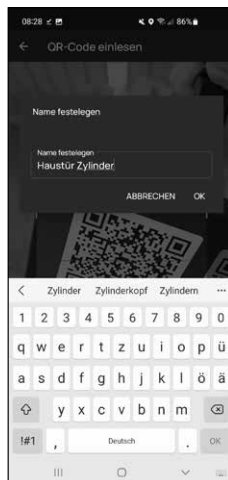

Fig. 6
- 7 In the following window, you will be prompted to assign a name for the cylinder. Where several cylinders and secuENTRY components are used, it is recommended to name the cylinder in such a way that you can directly identify what it is and where the cylinder is located or attached. In the example in these instructions, the cylinder is titled "Front door cylinder". Confirm the name with "OK" (Fig. 6).